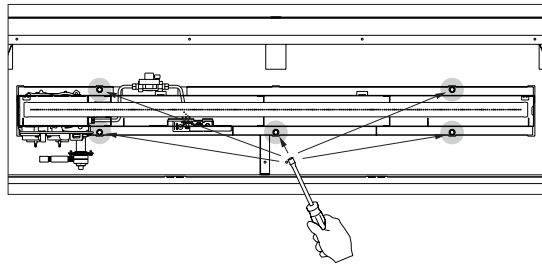

Figure 26
2. Remove burner box from fireplace. **See Figures 26 and 27.**